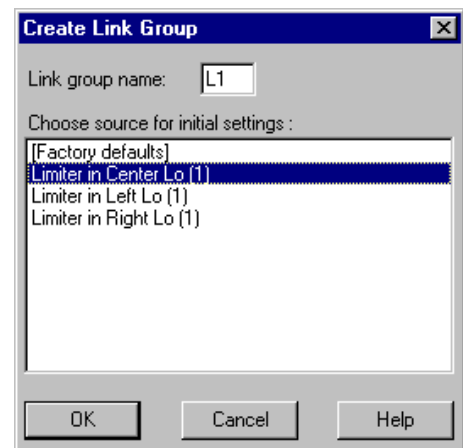

Figure 14 – Link Group Dialog
3. The Create Link Group dialog appears, as pictured to the right in figure 14.